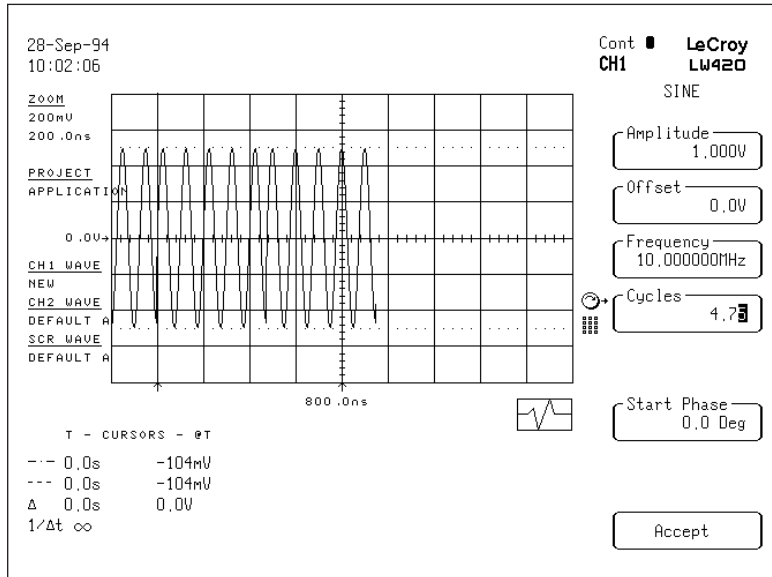

Figure 2.2 The sine wave
7. Verify that all menu selections are as shown in figure 2.2.